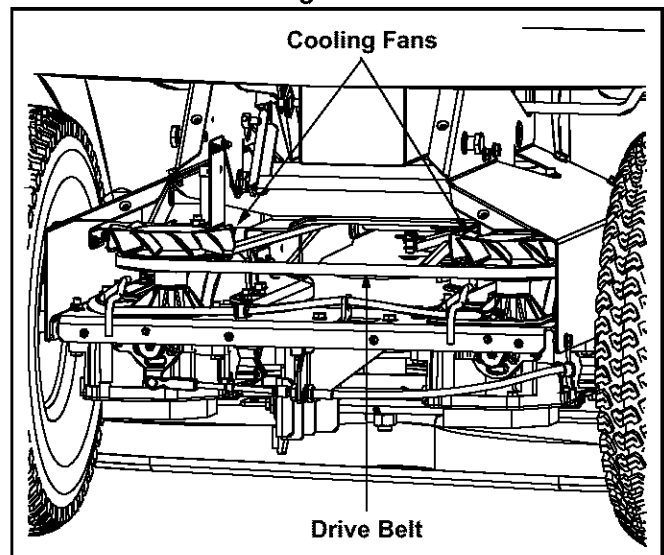

Figure 25
- In the rear of the tractor, reach into the area where the access plate previously was and carefully remove the drive belt from around both transmission pulleys. Be careful not to damage the cooling fan found on top of each transmission. See Figure 25.